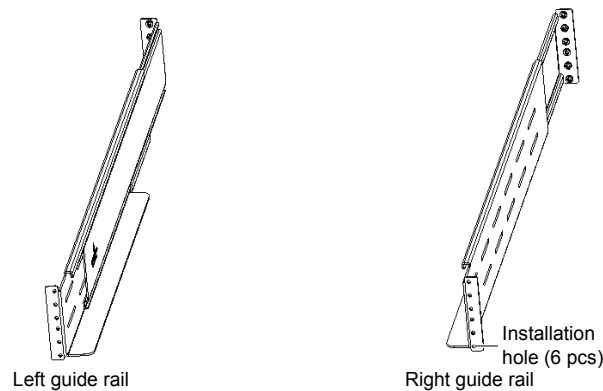

Figure 2-14 Appearance of the guide rail
The installation method of the battery module is the same as that of the UPS. Repeat the installation procedures of the UPS to install and fix the battery modules and the UPS in the rack one by one, as shown in Figure 2-14.
- Install the battery modules first, start the installation from the bottom, and then place the UPS onto the top, as shown in Figure 2-14.